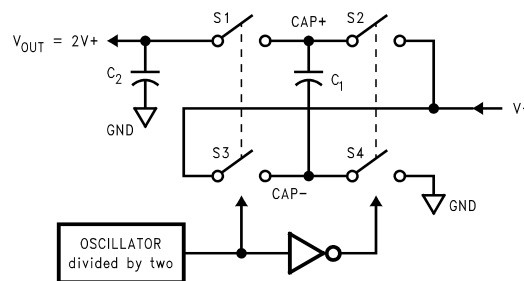

Figure 9. Voltage Doubling Principle
The LM2765 contains four large CMOS switches which are switched in a sequence to double the input supply voltage. Energy transfer and storage are provided by external capacitors. Figure 9 shows the voltage conversion scheme. When S_2 and S_4 are closed, C_1 charges to the supply voltage $V+$. During this time interval, switches S_1 and S_3 are open. In the next time interval, S_2 and S_4 are open; at the same time, S_1 and S_3 are closed, the sum of the input voltage $V+$ and the voltage across C_1 gives the $2V+$ output voltage when there is no load. The output voltage drop when a load is added is determined by the parasitic resistance ($R_{ds(on)}$ of the MOSFET switches and the ESR of the capacitors) and the charge transfer loss between capacitors. See Application and Implementation for more details.
- R_{SW} is the sum of the ON resistance of the internal MOSFET switches shown in Figure 9. R_{SW} is typically $8\ \Omega$ for the LM2765. (1)